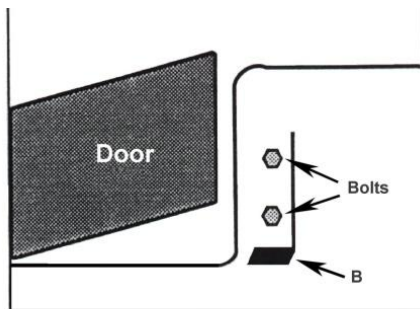

Figure 1
5. Remove quarter trim panel from car and remove two bolts in car at the B pillar and flatten the metal lip, see **figure 1** below.